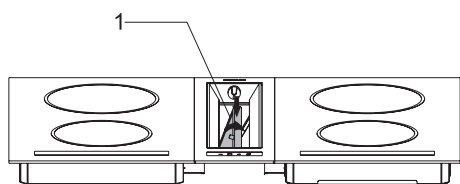

Fig. 11
10. ➔ Insert the metal oil filter in the filter socket on the product in the direction of the arrow (Fig. 11).
Install the metal oil filter (Fig. 11).